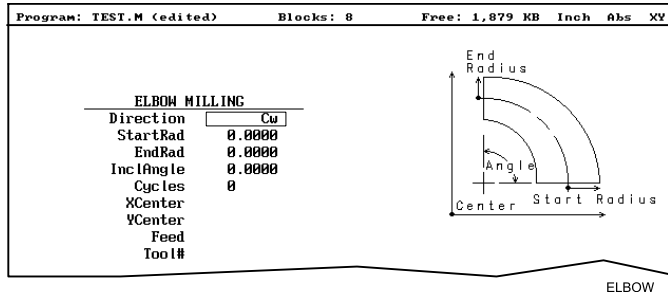

Figure 5-45, ELBOW MILLING Graphic Menu
2. Highlight **Elbow Milling**, and press **ENTER** to display the **ELBOW MILLING** Graphic Menu. Refer to **Figure 5-45**.